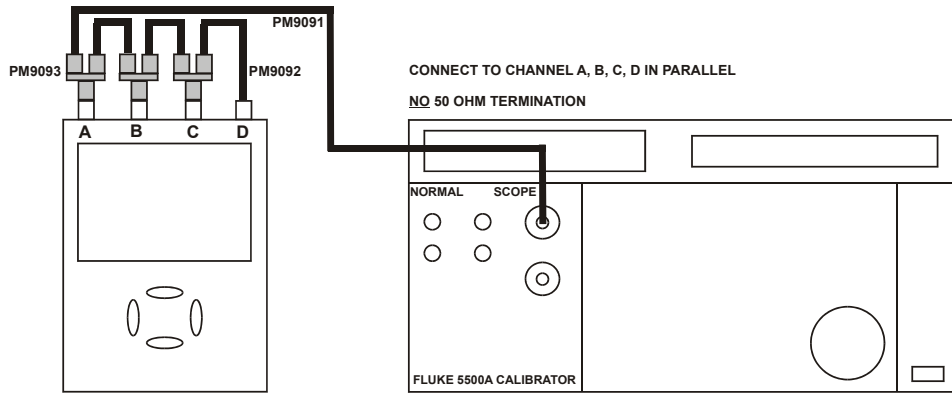

Figure 4-5. 5500A Scope Output to Test Tool Input A, B, C, D
1. Connect the Test Tool to the 5500A as shown in Figure 4-5. Do NOT use 50 Ω terminations!
1. Connect the Test Tool to the 5500A as for the previous test (see Figure 4-5).